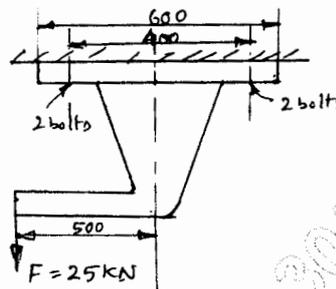

Fig.Q9(b)
- b. A bracket is fixed to the support using four bolts as shown in Fig.Q9(b). Select the suitable size for bolts if the allowable tensile stress in the bolts is 120 MPa.